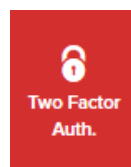

Figure 10. Partner Portal (Two Factor Auth. icon)
4. Click the **Two Factor Auth.** link on the left-hand side of the web page (Figure 10 \(page 42\)).